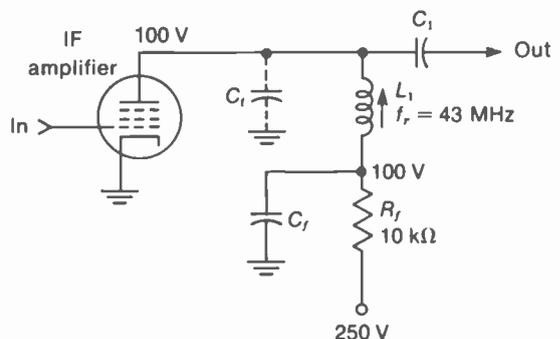
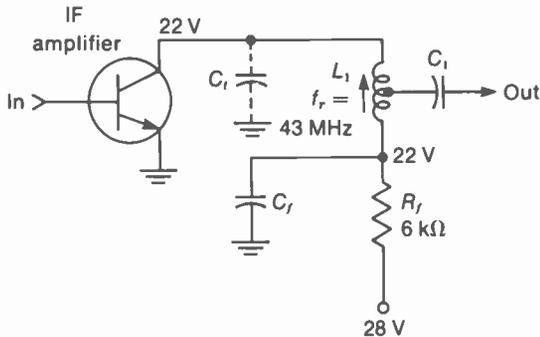

FIGURE 23-3 PARALLEL RESONANT CIRCUIT AS TUNED LOAD IMPEDANCE FOR PLATE OF PENTODE TUBE.
FIGURE 23-4 PARALLEL RESONANT CIRCUIT AS TUNED LOAD IMPEDANCE FOR COLLECTOR OF TRANSISTOR. NOTE TAP ON  $L_1$  FOR BASE OF NEXT STAGE.
The way that a resonant LC circuit is used as the ac load impedance for the output of a tuned amplifier is illustrated in Fig. 23-3 for tubes and Fig. 23-4 for transistors. In both cases the IF coil  $L_1$  tunes with the stray capacitance  $C_f$  for resonance. In this example, the resonant frequency  $f_r$  is 43 MHz.
In Fig. 23-3,  $L_1$  tunes with  $C_f$  to form the resonant plate load for the pentode IF amplifier. Pentodes are used because their high plate resistance shunting the tuned circuit allows a high  $Q$  for parallel resonance.  $R_f$  is a plate decoupling resistor which isolates the ac signal of the tuned circuit from the dc supply, in order to prevent feedback between stages.  $C_f$  is the bypass for  $R_f$ . Note that  $C_f$  is actually part of the tuned circuit, as it returns  $L_1$  to  $C_f$  for the IF signal. If  $C_f$  opens, then the resistance of  $R_f$  becomes part of the tuned circuit, resulting in low  $Q$  and practically no IF gain.
In Fig. 23-4, the resonant circuit of  $L_1$  with  $C_f$  forms the collector load for IF output signal from the transistor amplifier.  $C_1$  couples the IF
**Impedance matching.** In Fig. 23-4 the output connection for  $C_1$  is tapped down on the IF coil  $L_1$ . The purpose is to provide a stepdown of impedance from the collector to the base of the next transistor. A typical collector output resistance in the CE circuit is 50 kΩ, while the base input resistance may be 1 kΩ.
In Fig. 23-4,  $L_1$  is connected as a step-down autotransformer. All the turns serve as the primary for the collector load. However, only those turns between the tap and the low end of the coil are used as the secondary for output to the base. Another method is to use a stepdown transformer with separate primary and second-
In Fig. 23-3, the plate supply voltage at the low end of  $R_f$  is 250 V. This value is dropped to 100 V for the tuned circuit because of the  $IR$  drop of 150 V across  $R_f$ . The 150-V drop across the 10 kΩ of  $R_f$  means the dc plate current  $I_b$  is 150 V/10 kΩ = 15 mA. The dc plate voltage of 100 V at the high side of  $L_1$  is the same as the 100 V at the low end because  $L_1$  has a dc resistance of less than 1 Ω.
In Fig. 23-4, the collector supply voltage at the low end of  $R_f$  is 28 V. This value is dropped to 22 V because of the  $IR$  drop of 6 V across  $R_f$ . The 6-V drop across the  $1,000\ \Omega$  of  $R_f$  means the dc collector current  $I_c$  is  $6\text{ V}/6,000\ \Omega = 0.001\text{ A}$  or 1 mA. The collector voltage of 22 V at the high side of  $L_1$  is the same as the 22 V at the low end because of the low resistance of  $L_1$ .
A single-tuned stage has one LC circuit as the load impedance in the output. See Fig. 23-3. The output signal from the high side of the resonant circuit is coupled by  $C_1$  to the next stage. The function of  $C_1$  as a coupling capacitor is to block the dc voltage at the plate or collector, but have low reactance for ac voltage at the IF signal frequencies. Values for  $C_1$  are 100 to 200 pF.